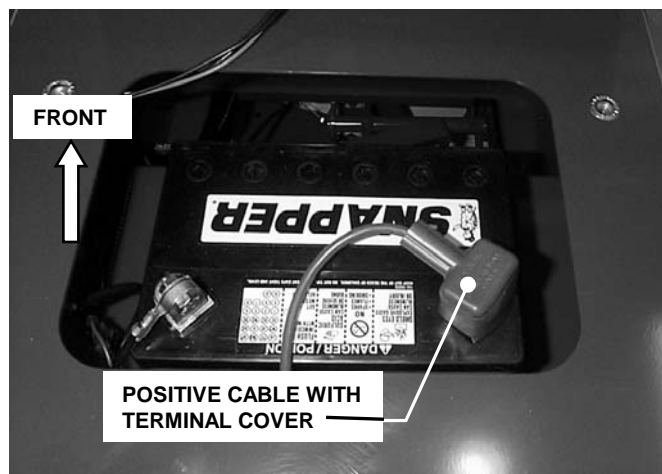

FIGURE 4.14
2. Observe and note cable positions on battery. See Figure 4.14.
Cables must be connected to battery terminals in the proper position as show in Figure 4.14. DO NOT attempt to charge battery while installed on the Machine. DO NOT use “BOOST” chargers on the battery.
IMPORTANT: Your Hydro Rear Engine Rider is equipped with a specially designed battery that allows the machine to be placed on the rear bumper for up to 2 hours with no acid leakage. Failure to use a genuine Snapper battery or installing the Snapper battery incorrectly will result in damage to your machine. The Snapper battery must be installed with the battery caps towards the front of the machine and the terminals towards the rear. See Figure 4.14.